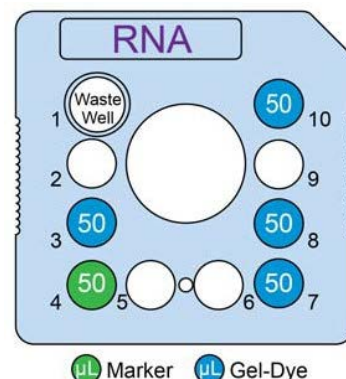

Figure 1. Low-Throughput Chip Preparation
2. Add prepared Gel-Dye to chip wells 3, 7, 8 and 10 (as shown in Figure 1) using a Reverse Pipetting Technique.
3. Add **50 µL** RNA Marker ● to chip well 4 (as shown in Figure 1).